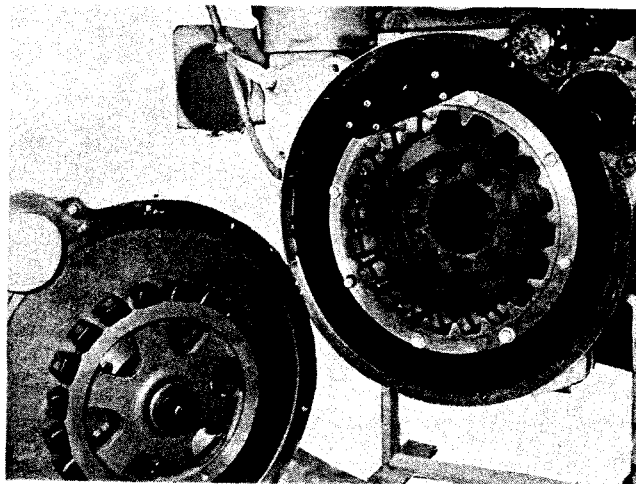

Fig. 5-16, (V22033). Torquing Twin Disc driving ring
1. Position driving ring to flywheel, Fig. 5-16, with lockwashers and capscrews. Torque to 30 to 32 ft-lbs [4.15 to 4.43 kg m].